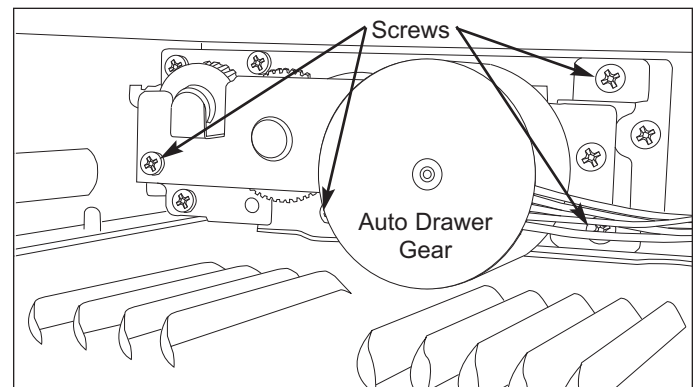

Figure 4-16. Auto Drawer Gear Mounting Screws
6. Extract four (4) mounting screws holding the auto drawer gear to the bottom cavity angle (See Figure 4-16).